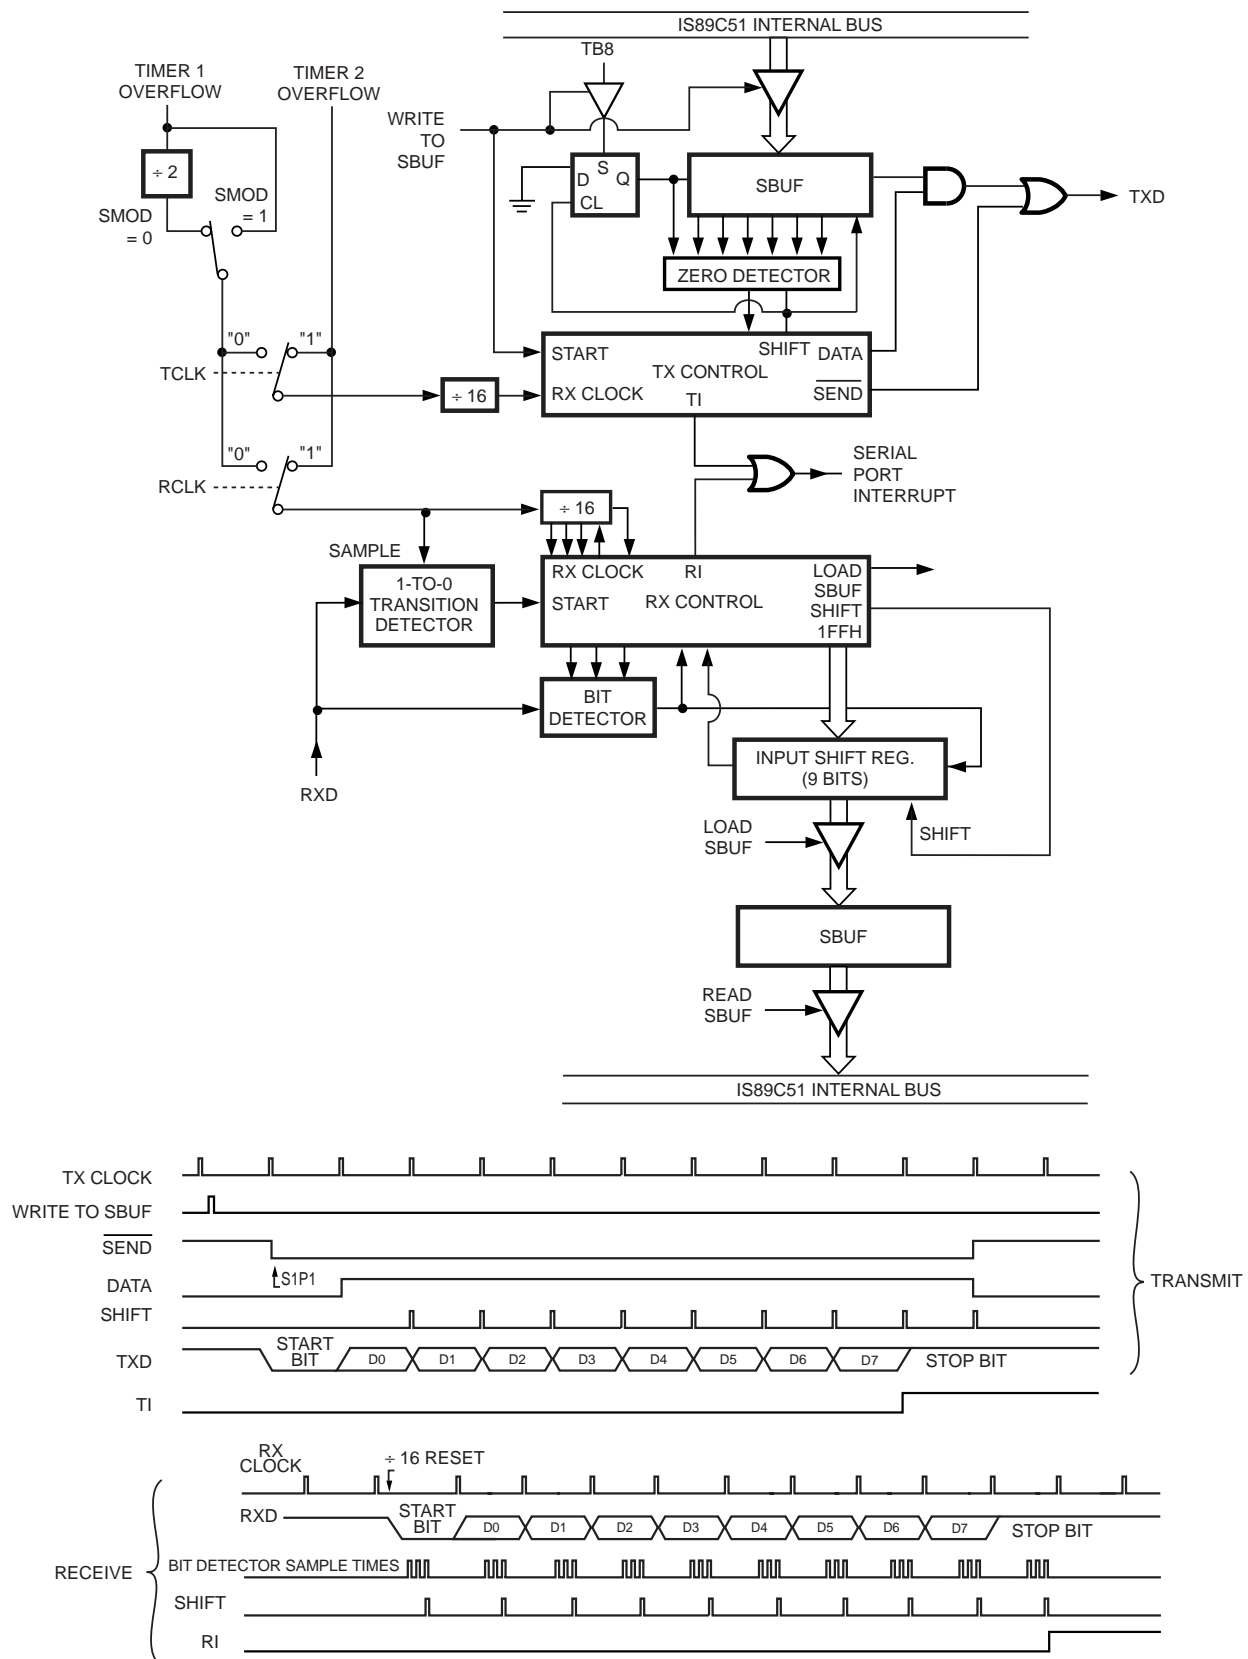

Figure 13. Serial Port Mode 1
Ten bits are transmitted (through TXD) or received (through RXD): a start bit (0), eight data bits (LSB first), and a stop bit (1). On receive, the stop bit goes into RB8 in Special Function Register SCON. The baud rate is variable (see Figure 13).
Figure 13 shows a simplified functional diagram of the serial port in Mode 1 and associated timings for transmit and receive.